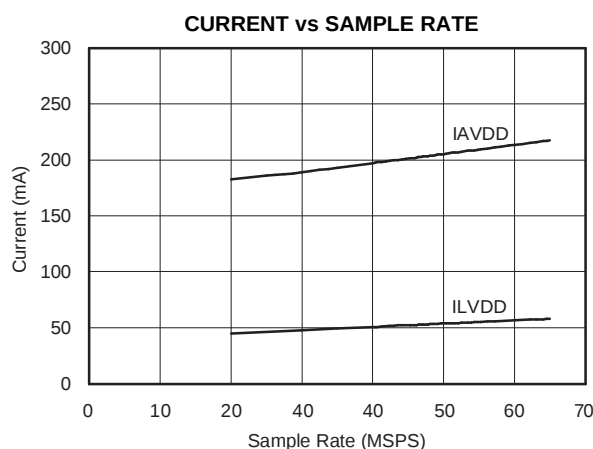

Figure 29.
- Deleted *Supply* from title of Figure 29. 18